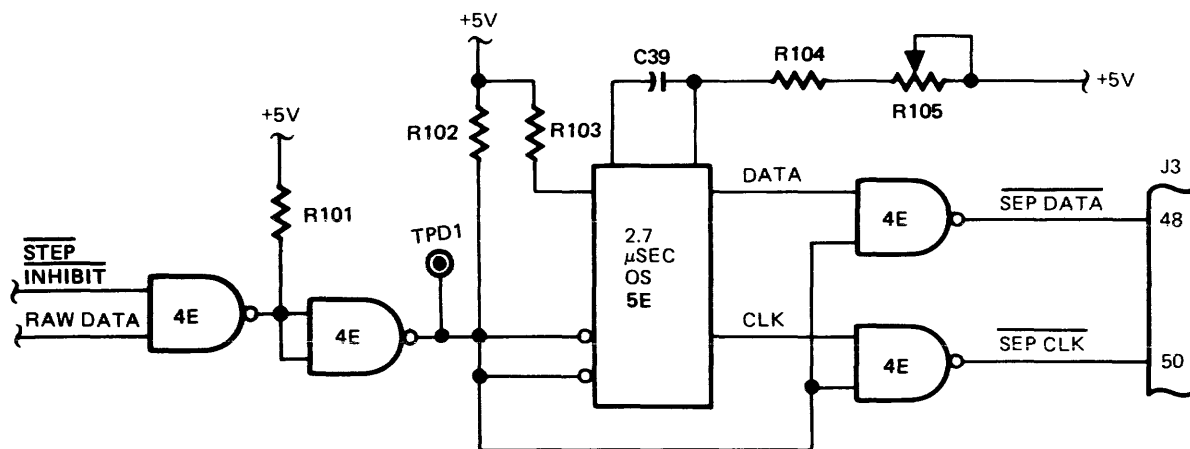

Figure 3-36. FM Data Separator (Option) Logic
The FM Data Separator option is usable only when the disk drive is used for single-density recording. Frequency modulated (FM) encoding is defined as being a pulse train wherein a clock pulse occurs every 4 microseconds, a binary one data bit pulse occurs midway between clock pulses and no pulse occurs if the data bit is a binary zero. The logic is shown in Figure 3-36.